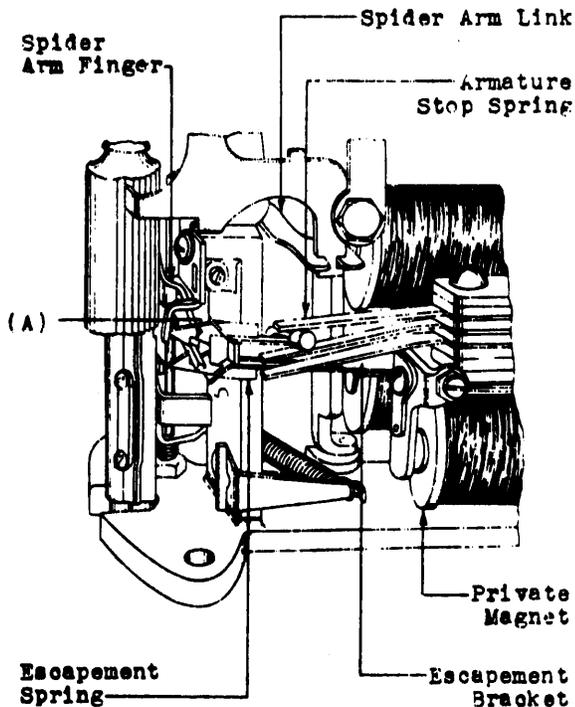

Fig. 8 - Position of Private Magnet
2.22 Private Magnet Position - Fig. 8 (A)